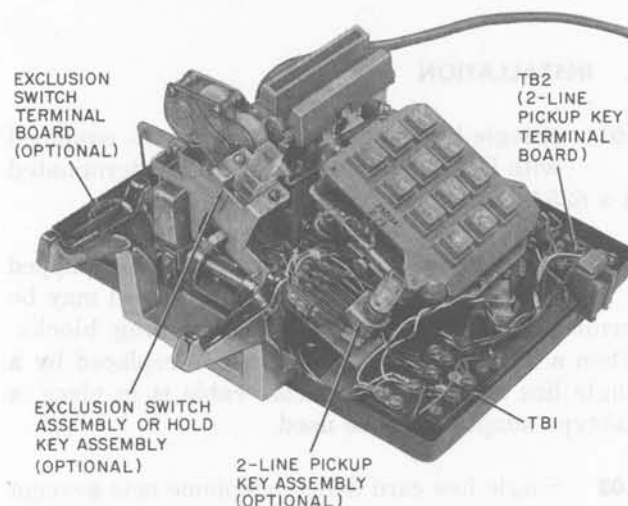

Fig. 3—Mounting Location for Optional Components in 1660- and 2660-Type Telephone Sets
- Revise Fig. 3
- (1) Remove faceplate and housing.
- (2) Mount hold switch assembly to line switch mounting bracket. The hold switch (Fig. 3) mounts similar to the exclusion switch (2.07). Wire link must be connected between line switch arm and hold switch assembly. Secure hold switch assembly using three furnished screws (Fig. 6).
- (3) Dress wiring between line switch and dial to terminal board at left rear of set.
- (4) Mount turnbutton-pushbutton key assembly on left side of set in front of line switch (Fig. 3). Use bracket and hardware furnished in kit.
- (5) Dress wiring across in front of dial.
(6) Make connections to the D4BU-29 mounting cord as shown in the Service section for the 2660A1M telephone set.
(7) Reinstall housing and replace faceplate with one furnished in kit of parts.
(8) Check set for proper operation.
- (2) Mount turnbutton-pushbutton switch assembly on left side of set in front of line switch (Fig. 3). Use two shouldered screws furnished in kit.
- (3) Dress wiring across in front of dial.
- (4) Replace three or four conductor mounting cord with D6AF mounting cord (ordered separately) and make proper connections.
- (5) Reinstall housing and replace faceplate with one furnished in kit of parts.
- (6) Check set for proper operation.
- (2) Mount hold switch assembly to line switch mounting bracket. The hold switch (Fig. 3) mounts similar to the exclusion switch 2.07. Wire link must be connected between line switch arm and hold switch assembly. Secure hold switch assembly using three furnished screws (Fig. 6).
- (6) Replace mounting cord with a D6AF mounting cord (ordered separately) and make the proper connections.
- (7) Reinstall housing and replace faceplate with one furnished in kit of parts.
- (8) Check set for proper operation.